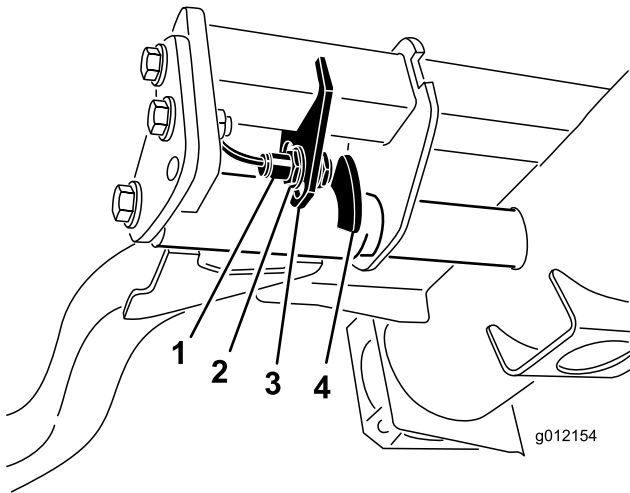

Figure 43
2. The lift arm switch is located underneath the hydraulic tank behind the front right lift arm (Figure 43).
3. Loosen the switch mounting screws (Figure 43) and move the switch down to increase the lift arm turn around height or move the switch up to decrease the lift arm turn around height. Tighten the mounting screws.